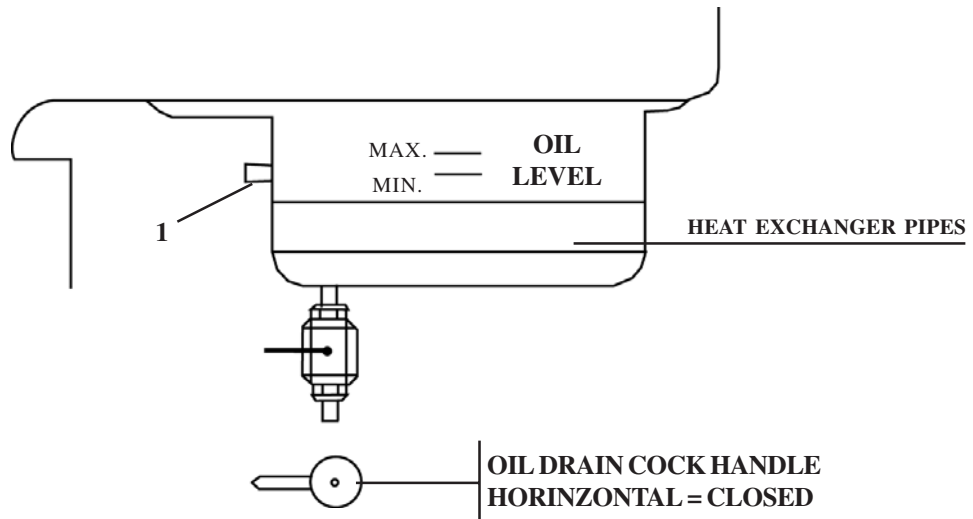

Fig. 8
- Remove the bulb from the bushing (Fig. 8 pos. 1)
FILLING IN THE TANK (Fig. 8)